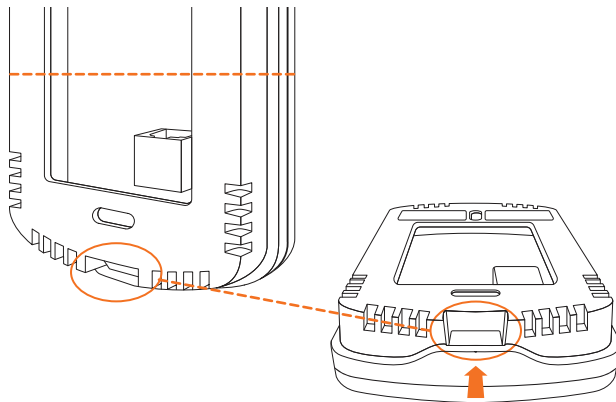

Figure 1 - Opening Tab
1. Open casing to remove back cover by pushing on the tab located underneath the thermostat. (Figure 1)